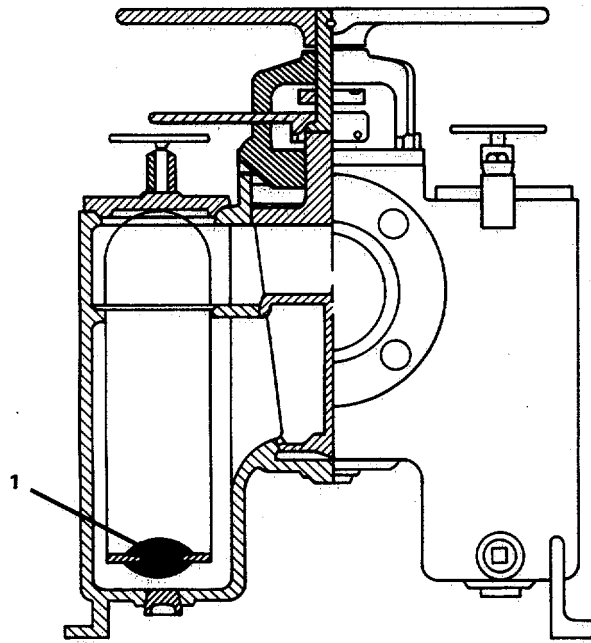

FIGURE 3-203. 3-Inch Duplex Sediment Strainer, Repair.
**3-215. Repair 3-Inch Duplex Sediment Strainer. (Figure 3-203)**